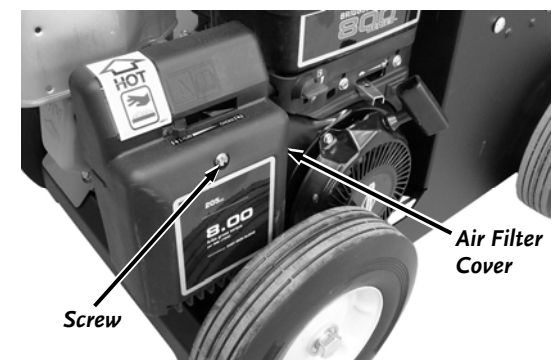

Figure 12
5. Remove the Engine Air Filter Cover and Filters to gain easy access to the Spark Plug (**Figure 12**).